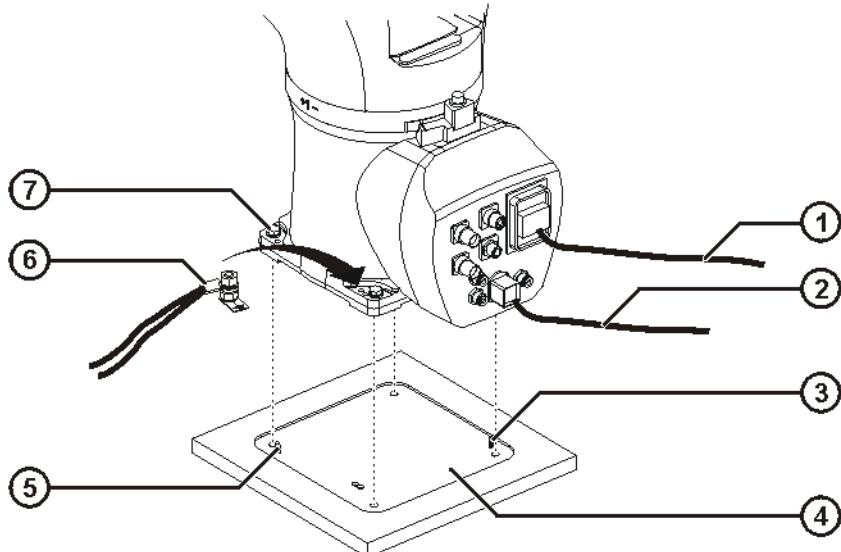

Fig. 8-3: Installing floor-mounted robots
1. Check that the pins are undamaged and fitted securely (**>>> Fig. 8-3**).